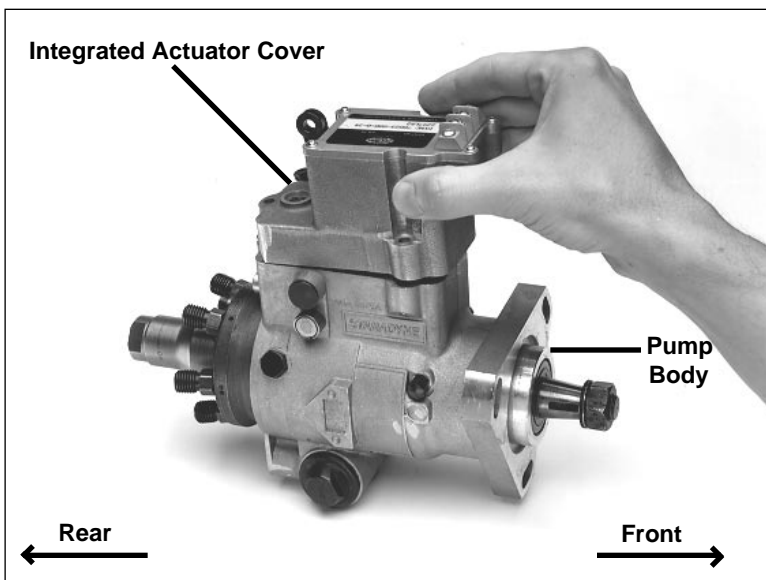

Figure 4
2.2 Position the INTEGRATED ACTUATOR COVER ASSEMBLY into the top of the pump while holding the METERING VALVE DRIVE COUPLING parallel to the PUMP BODY. Slightly lift the front portion of the INTEGRATED ACTUATOR COVER as shown in *Figure 4*.